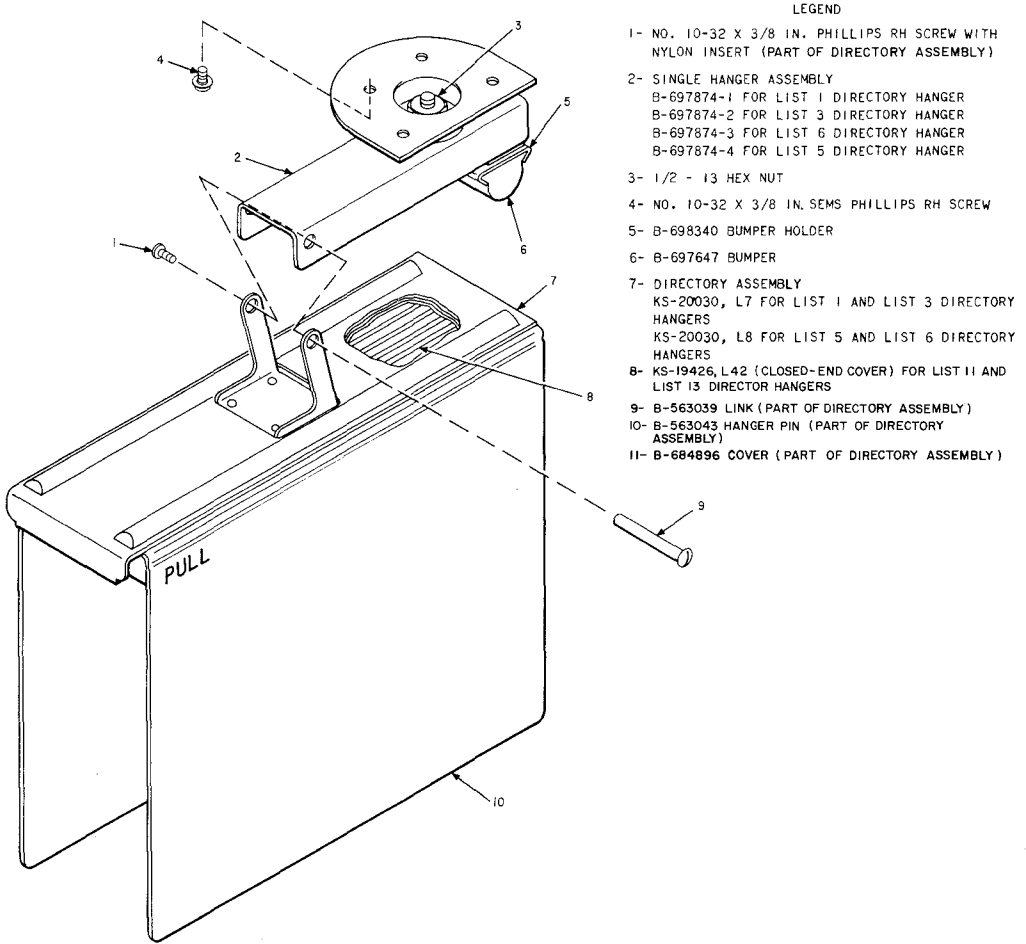

Fig. 1—KS-20030 Directory Hanger (Typical for Single Binder)
**1.01** The KS-20030 directory hangers (Fig. 1 and 2) are universal hangers designed for use with various coin telephone booths and shelves.
- 4.01** Maintenance of the KS-20030 directory hangers consists of replacing broken or damaged parts and lubricating bearings with KS-19589 lubricant. Refer to Fig. 1 and 2 for replacement parts.